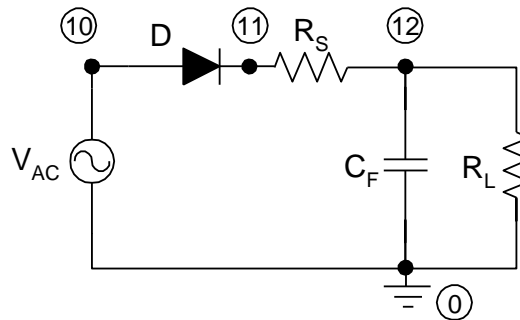

Figure 4: Circuit for example 1.
1. The input file of the circuit of Figure 4 can be as follows: